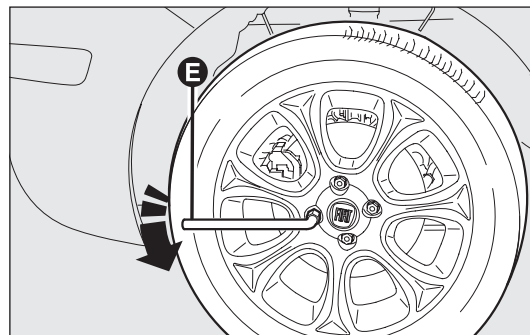

fig. 152
- ☐ loosen the bolts of the wheel to be replaced by about one turn with the wrench provided E-fig. 152; if you have alloy wheels, rock the car to make it easier to separate the rim from the wheel hub;